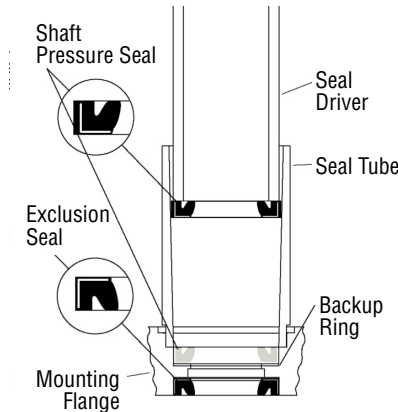

Figure 5-32, Seal Installation
6. Install the exclusion seal into the mounting flange. Carefully press the exclusion seal into place. (Figure 5-32)
8. Lubricate the I.D. of the seal tube and O.D. of the shaft pressure seal with a light film of clean petroleum jelly. Align the small I.D. end of the seal tube with the seal seat in the mounting flange. Install the back-up ring and pressure seal in the tube with lips of the seal face up (Figure 5-32). Insert the seal driver in the tube and firmly push seal seat with a rotating action.